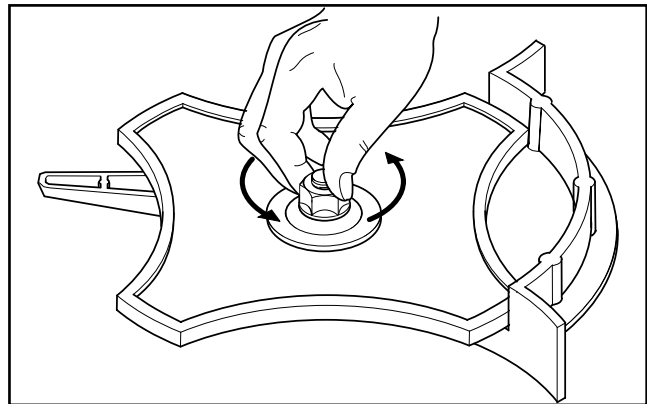
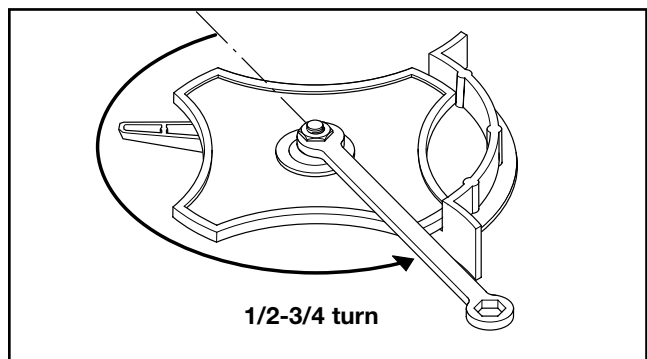

Fig. 8
Fig. 9
**If you do not have a torque wrench**, thread the lock nut onto the brush blade **by hand** as tightly as possible (Fig. 8). Using an open-ended wrench, rotate the nut **1/2 - 3/4 of a full turn** (minimum) (Fig. 9). The torque of the nut should be within the required specifications of **225-250 in•lb (25.3-28.1 N•m)**.